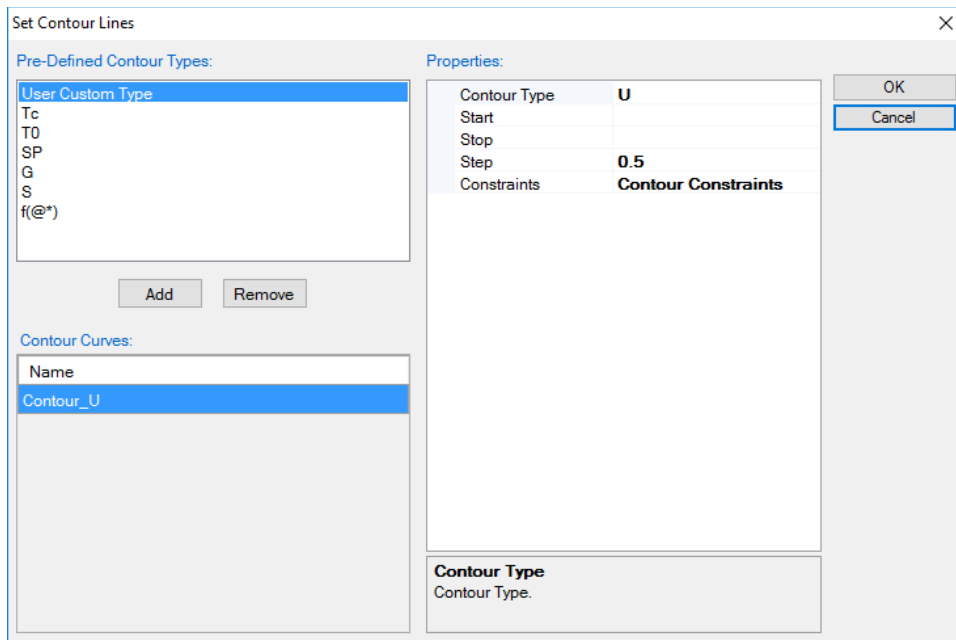

Figure 1.21.2: Setup contour lines for Property U from interface
- Set up contour lines as Figure 1.21.2